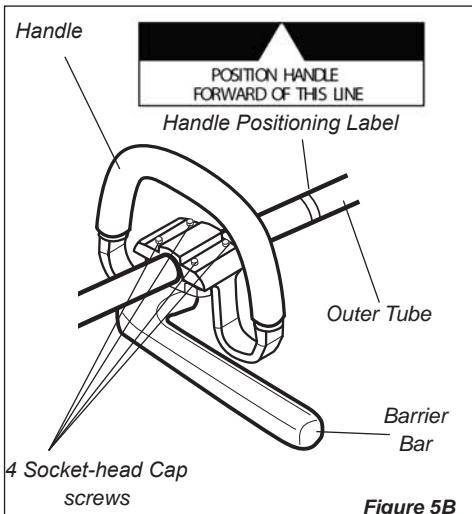

Figure 5B
2. Loosen the 4 socket-head cap screws on the handle and rotate the handle 90 degrees. See Figure 5B.